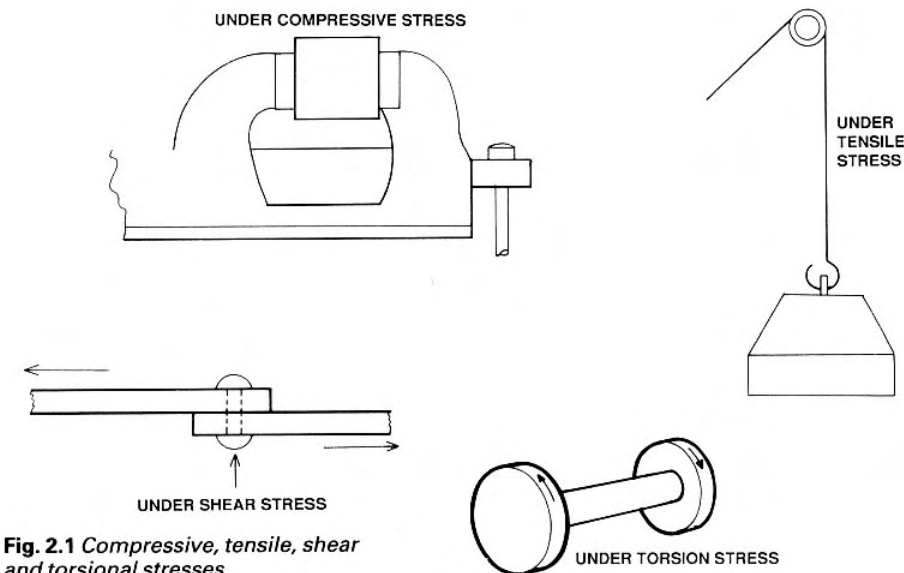

Fig. 2.1 Compressive, tensile, shear and torsional stresses.
**STRENGTH.** The strength of a material is its ability to withstand stress without breaking. The load, or stress, may tend to stretch, compress, twist or cut the material. These are termed tensile, compressive, torsional or shear forces. See Fig. 2.1. The strength of a material varies with the type of stress to which it is subject. For example, cast iron has good compressive strength but relatively poor tensile strength; it is about four times stronger when it is squeezed than when it is stretched.